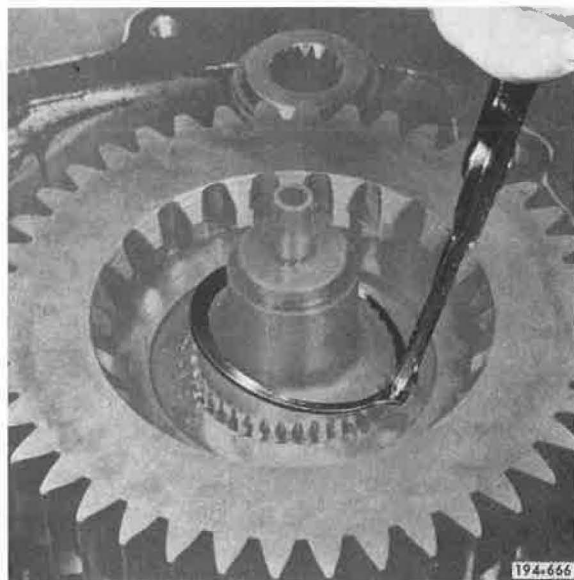

Figure 50. Removing Snap Ring
6. Remove compound main drive gear retaining snap ring, using snap ring pliers J-6435 or equivalent. See Figure 50.